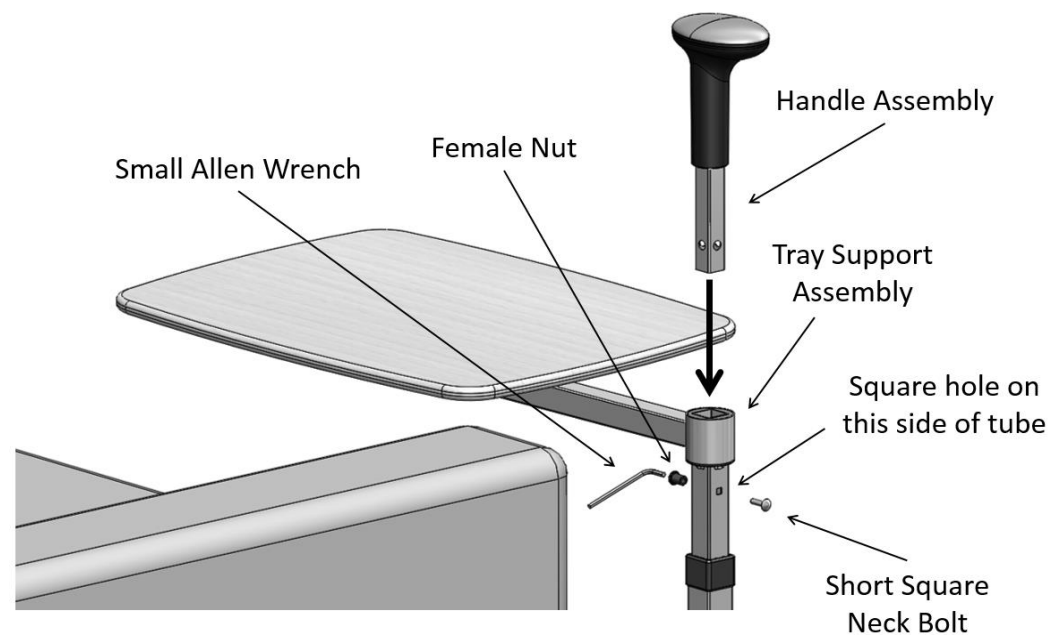

FIGURE 9
8. Attach the Handle Assembly to the Tray Support Assembly with the Small Allen Wrench, Female Nut, Short Square Neck Bolt as shown in Figure 9. **NOTE:** Short Square Neck Bolt must be inserted into the square hole of the Tray Support Assembly.